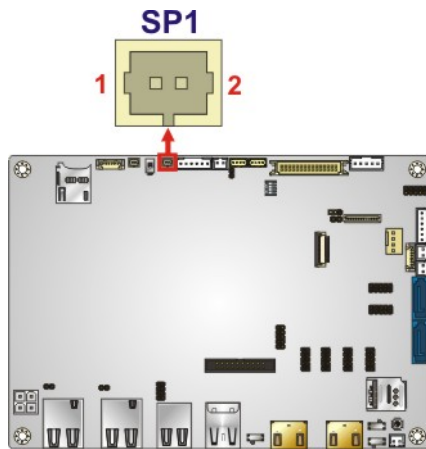

Figure 3-7: Buzzer Connector Location
- CN Location:** See **Figure 3-7**